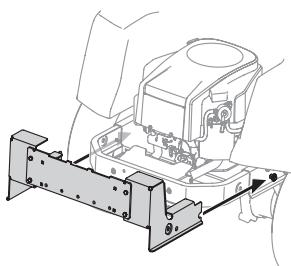

Figure 2
- Slide the mounting bracket assembly along the frame rails of the tractor until the hooks in the mounting brackets align under the shoulder bolts on your tractor, as shown in Figure 2.